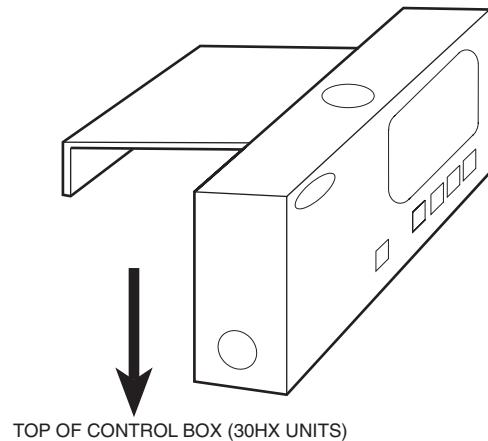

Fig. 9 — Installing Display and Bracket on Unit (30HX)
3. On 30HX units, position the enhanced display mounting bracket over the top of the chiller control box in the desired location. See Fig. 9. For 30GX units, mount the display in a suitable indoor location.